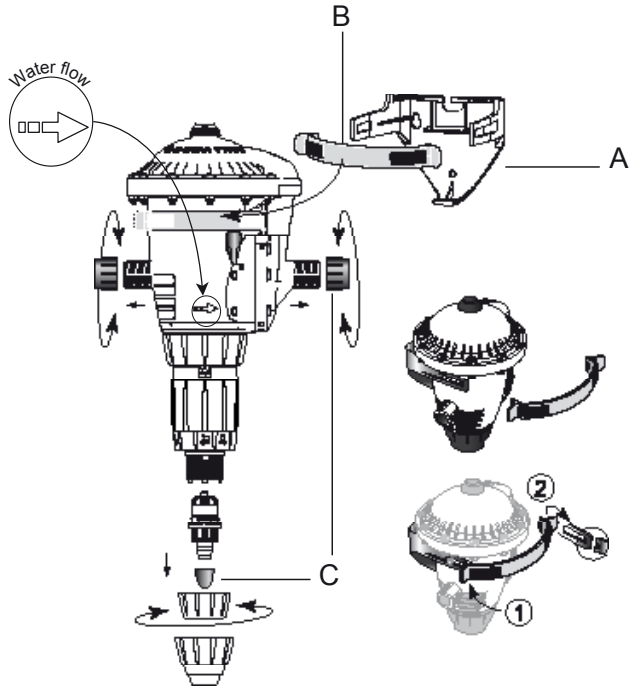

Fig. 1
- a mounting bracket (Fig. 1-A) and a strap (Fig. 1-B),
Remove the plastic caps (Fig. 1-C) which block the inlet and outlet of your DOSATRON before connecting to the water supply.